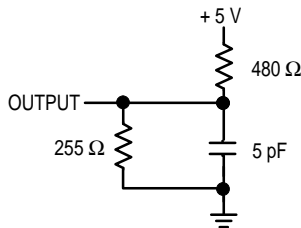

Figure 1B
6. Transition is measured $\pm 500\text{ mV}$ from steady-state voltage with load of Figure 1B.
7. Transition is measured ± 500 mV from steady-state voltage with load of Figure 1B.